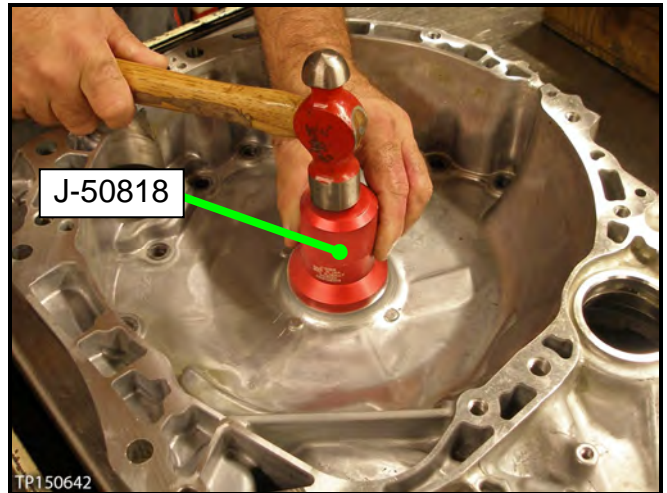

Figure 58
2. Install a new converter seal with Seal Installer J-50818 (see Figure 58).